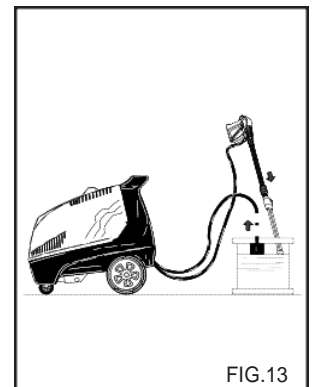

FIG.13
**Operations for Using Antifreeze (fig. 13)**